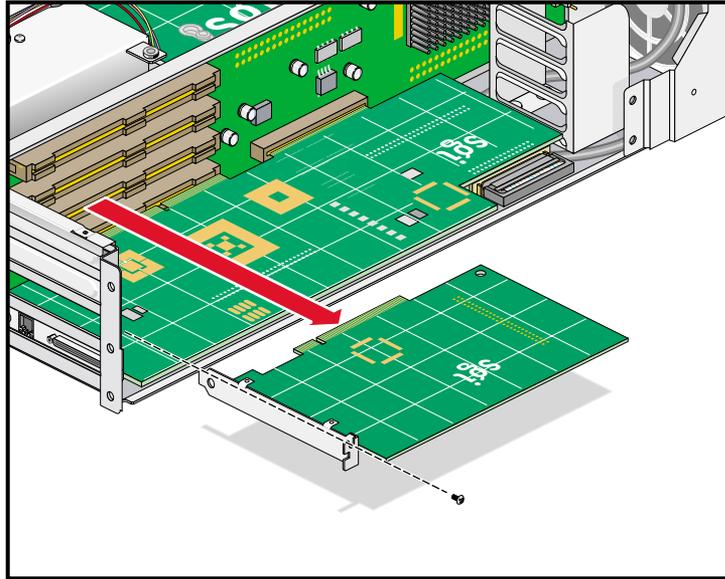

Figure 7-13 Removing the Retaining Screw and Extracting the Card
9. Unscrew the retaining screw from the card that you will remove, and extract the card, as shown in Figure 7-13. Place the card on an ESD-safe surface.